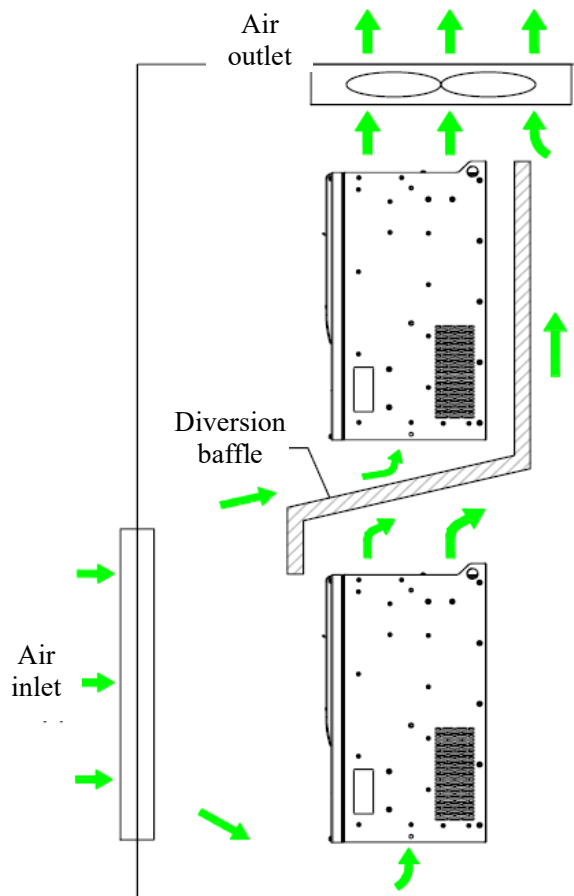

Fig. 3-4 Installation Requirements for Upper and Lower Rows
- Vertical and upward installation of the frequency converter is conducive to upward heat dissipation. If there are multiple frequency converters in the cabinet, they shall be installed side by side. Fig. 3-4 shows the way to install vertically with heat insulation guide plate;